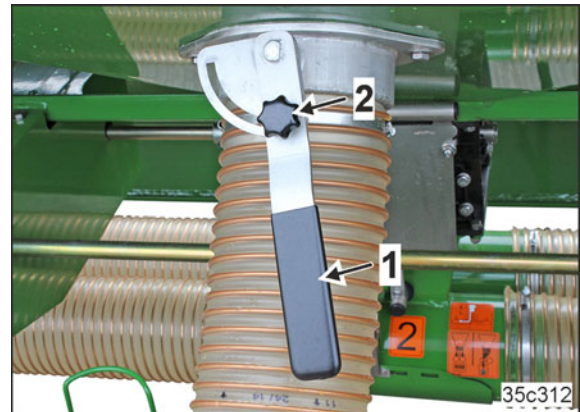

Fig. 55
2. Hold the lever (Fig. 55/1) and undo the knurled screw (Fig. 55/2).
7. Secure the lever (Fig. 55/1) using the knurled screw (Fig. 55/2).